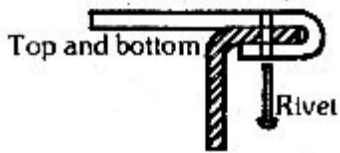

Figure 13.20 - Riveting system for stove top and bottom.
12. Rivet the stove top and bottom to the body flanges. To prevent the stove sides from buckling and pulling the seams apart under the stresses of repeated heating and cooling, rivet through the top and bottom and the body flanges as shown in Figure 13.20.